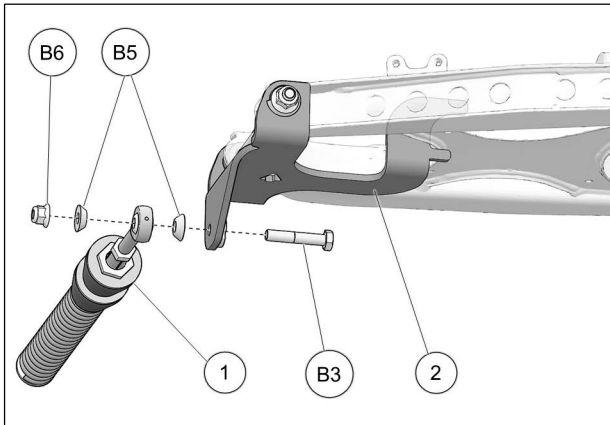

Fig. 10
10. Attach stabilizing rod (1) to anchor bracket (2), using M10x55mm bolt (B3), taper sleeves (B5), and nut (B6). Torque to 70 Nm [52 lb•ft]. See Fig. 10